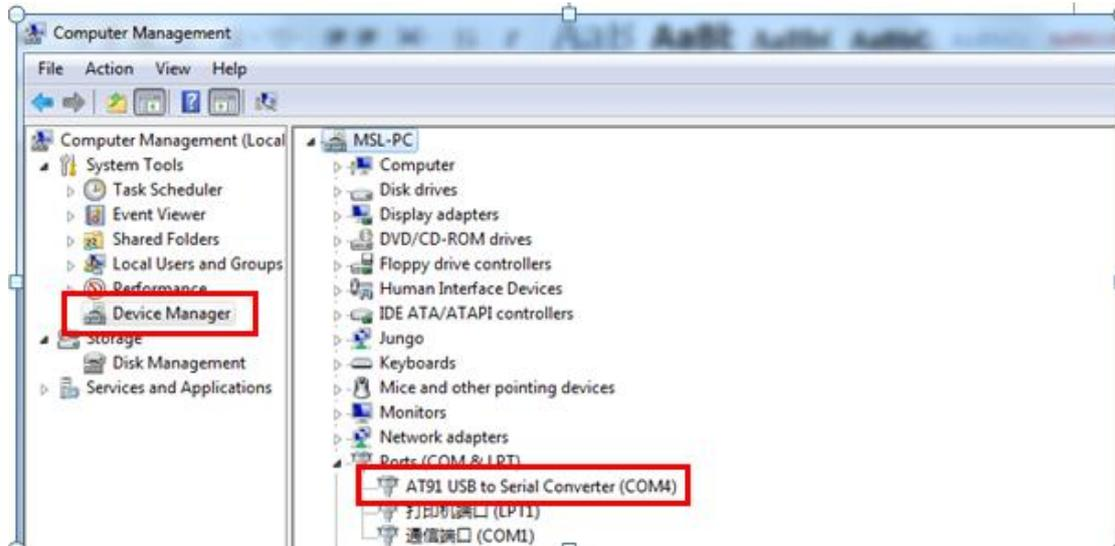

Figure 4-3
(3) If there is figure 4-3 in "my computer->properties->Management-> device manager-> port", which shows board driver has been installed.